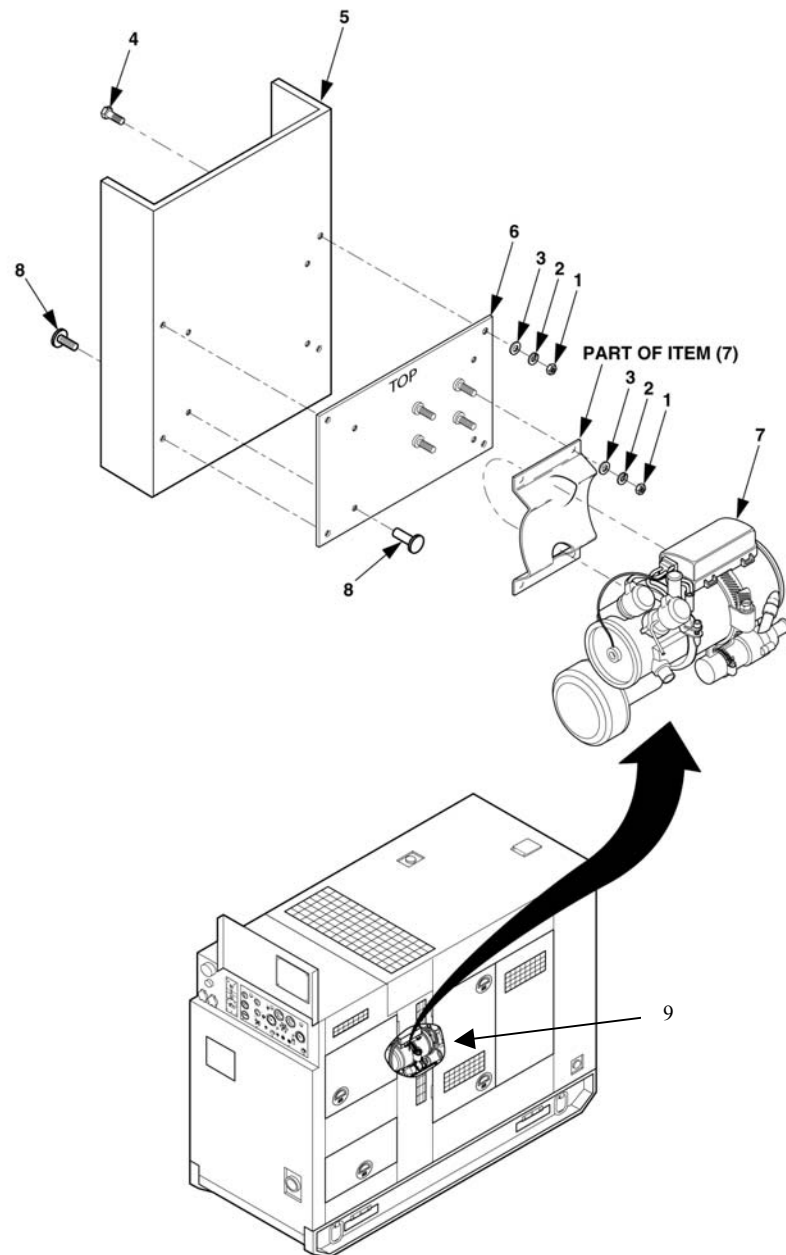

Figure 4-35. Heater Assembly
4. Open control panel access door (9), Figure 4-35.